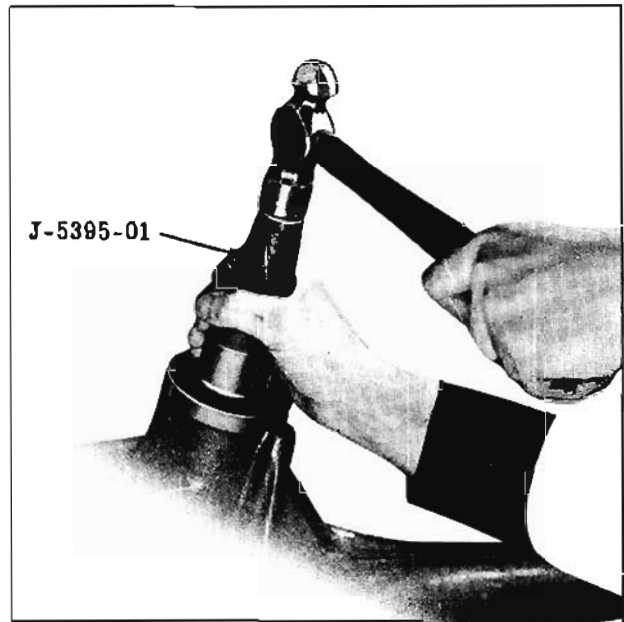

Fig. 10-111 Pinion Oil Seal
8. Install seal using Driver J-5395-01 to properly locate seal in carrier. (Fig. 10-111)